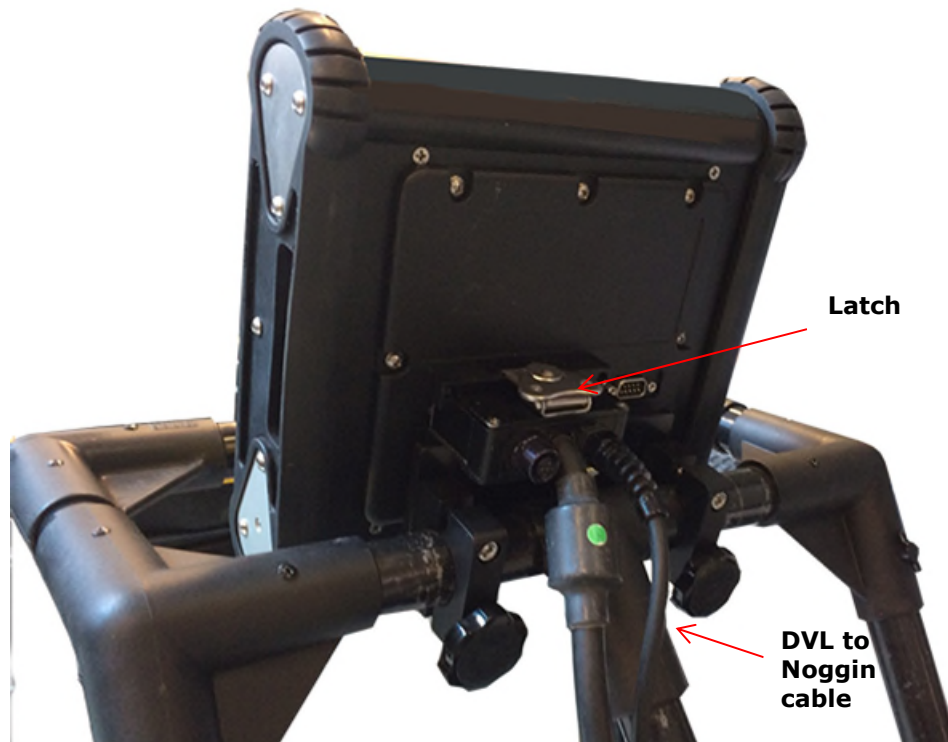

Figure 2-30: Connecting main cable to DVL
7. Once the DVL is in place, attach the 37-socket female D-connector cable to the 37-pin receptacle on the back of the DVL. Secure the attachment with the latch (Figure 2-30).
The image in Figure 2-30 displays the SmartCart 9 Amp-hr. battery. Follow the steps for placing the battery in the SmartCart: